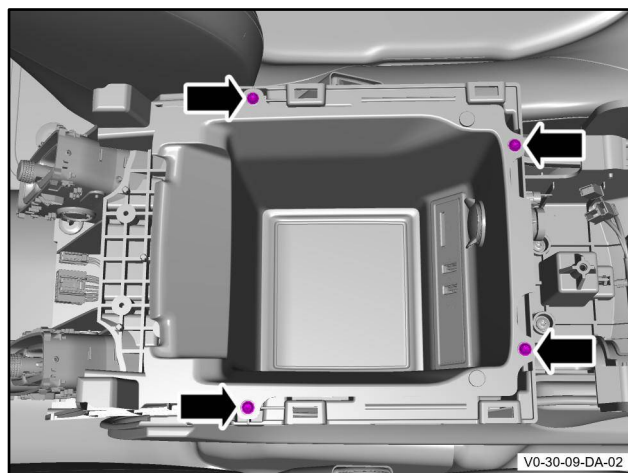

Figure 33
24. Install the four screws that attach the stowage tray to the centre console assembly (refer to Figure 33).